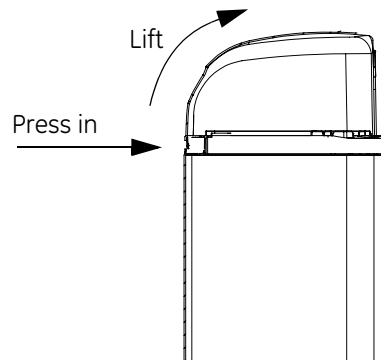

Figure 4
3. Remove cover by pressing in on the latch and lifting cover (Figure 4). When the cover is removed, the valve is visible. Remove the power adapter. It should be secured to the tank collar near the inlet/outlet connections.